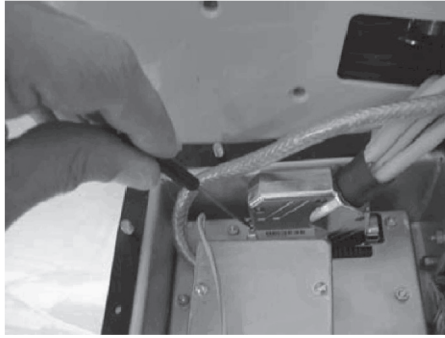

Figure 87
3. Disconnect connector from Intermediate board, taking out two screws.(Fig. 87)